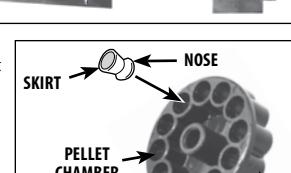

Fig. 6
4. Place a .177 caliber pellet; nose first, in each pellet chamber of the pellet clip (Fig. 6). To avoid jams or deforming pellets, ensure each pellet skirt is level or slightly below the rim of the pellet chamber.